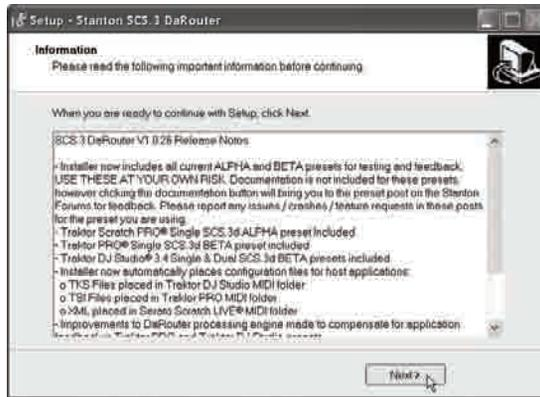

Figure 5.11
11. Click **Next**. (Figure 5.11)